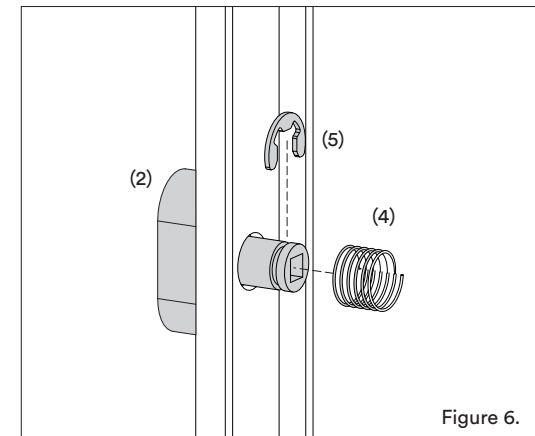

Figure 6.
- 4.2. Affix circlip to groove in snib neck on inside of backplate. (Figure 6)